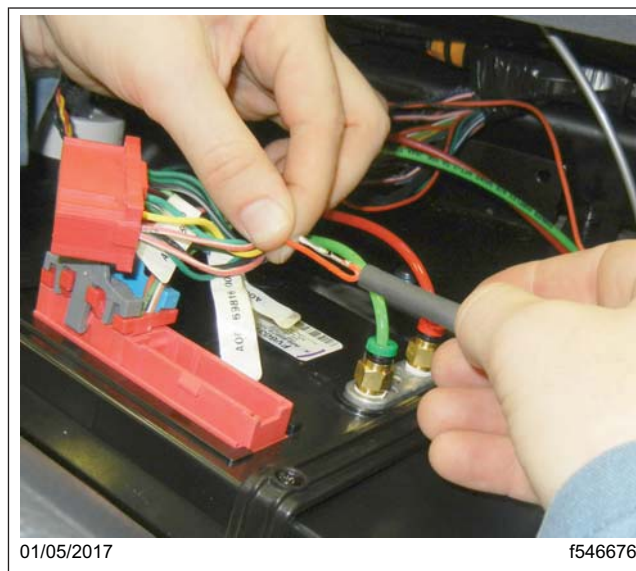

Fig. 16, 2A ICU Heat Shrink
22. Fold the wire back against itself, and cover the terminal with heat shrink tubing. See Fig. 16.